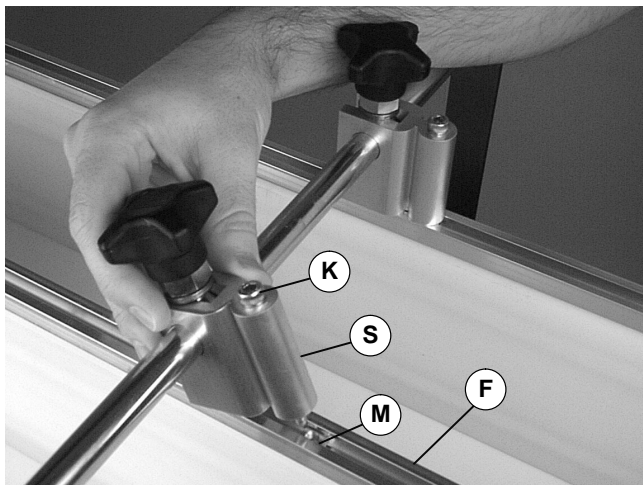

Figure 14
2. Loosely attach positioner (S of Figure 14) to square nut (M) in lane guide (F) with screw (K).
Periodically, detach lane(s) from positioners. Clean any debris from between bottom of lane(s) and conveyor belt. Replace and re-secure lane(s). Tighten screws (K of Figure 14) to 146 in-lb (16 Nm). Hand-tighten knob(s).